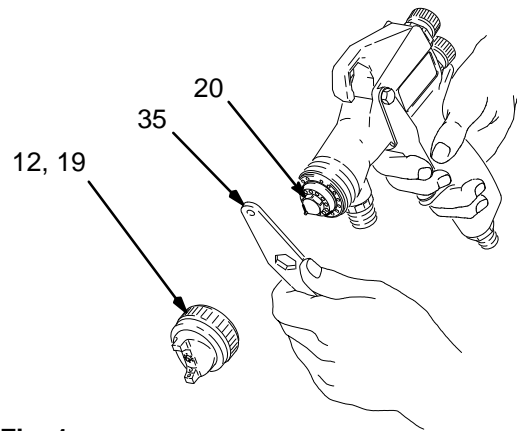

Fig. 1
2. Remove the air cap retaining ring (12) and air cap (19).
3. Trigger the gun while you remove the fluid nozzle (20) with the gun wrench (35). See Fig. 1.